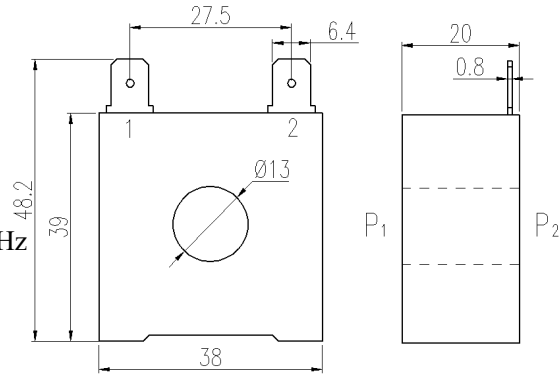

Fig 1
- ① The outline drawing and installation dimensions are shown in Figure 1: